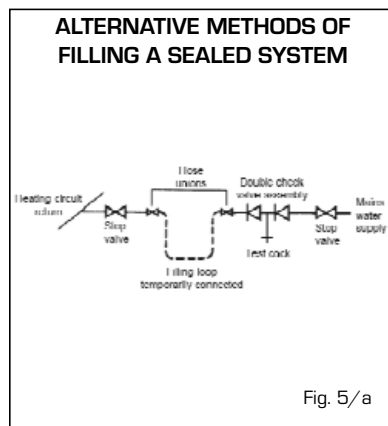

Fig. 5/a
- The appliance is equipped with an internal by-pass that operates with system heads (H) greater than 3 m. The maximum flow through the by-pass is about 300 l/h. If thermostatic radiator valves are to be installed, at least one radiator should be without a thermostatic valve (usually the bathroom radiator or the radiator in the room containing the room thermostat).
- A sealed system must only be filled by a competent person using one of the approved methods shown in fig. 5/a. The system design should incorporate the connections appropriate to one of these methods.